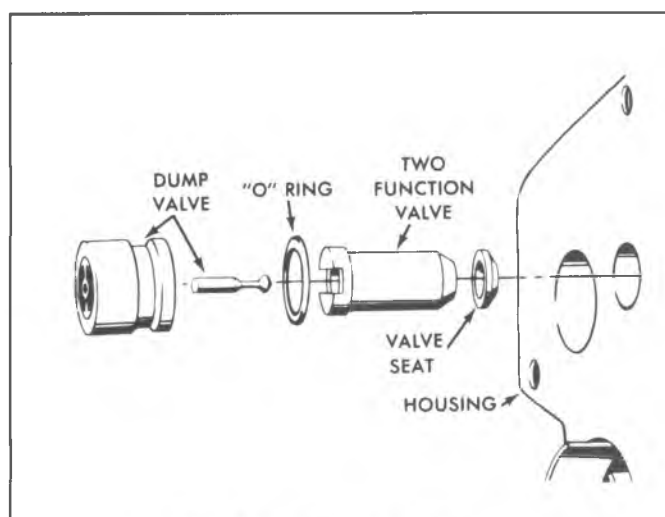

Fig. 5-8E--Accumulator Valves
under the pin guide near the center of the valve, then remove two function valves and seat (fig. 5-8E).
10. If accumulator valve was removed, install new seat into the valve bore. The seat can be forced to the bottom by installing the two function valve (fig. 5-8E). Make certain the check valve seat is cup side up when in bore.